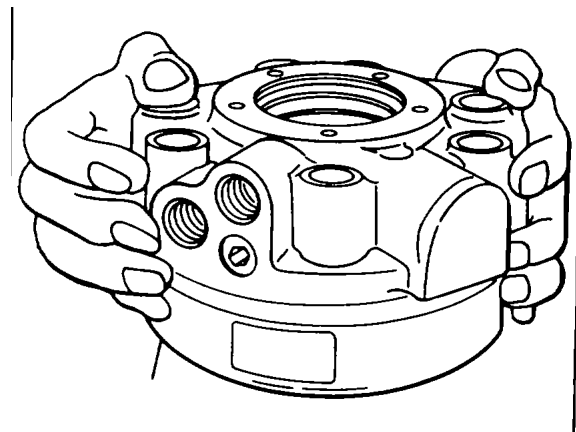
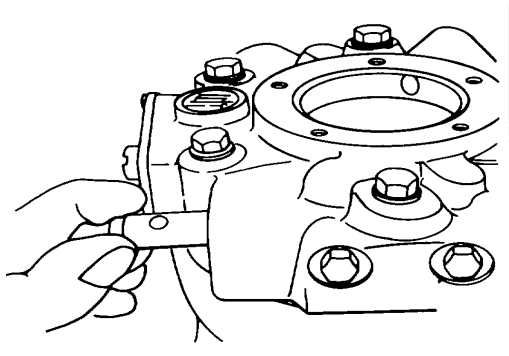

Figure 223.
Figure 224.
22. Fill pistons (55) with new transmission oil allowing a small excess to spill over the face of the block (40).
23 Place a new gasket (53) on housing and position cover (4), utilizing reference marks in housing and cover. Install six hex bolts (45) and lock washers (37) and torque bolts in an opposite pattern to 450 in lbs. See Fig 223.
24. If previously removed, Install two plugs (33) with new O-rings (34).
25. Install shuttle (32) in cover (4) See Fig 224.